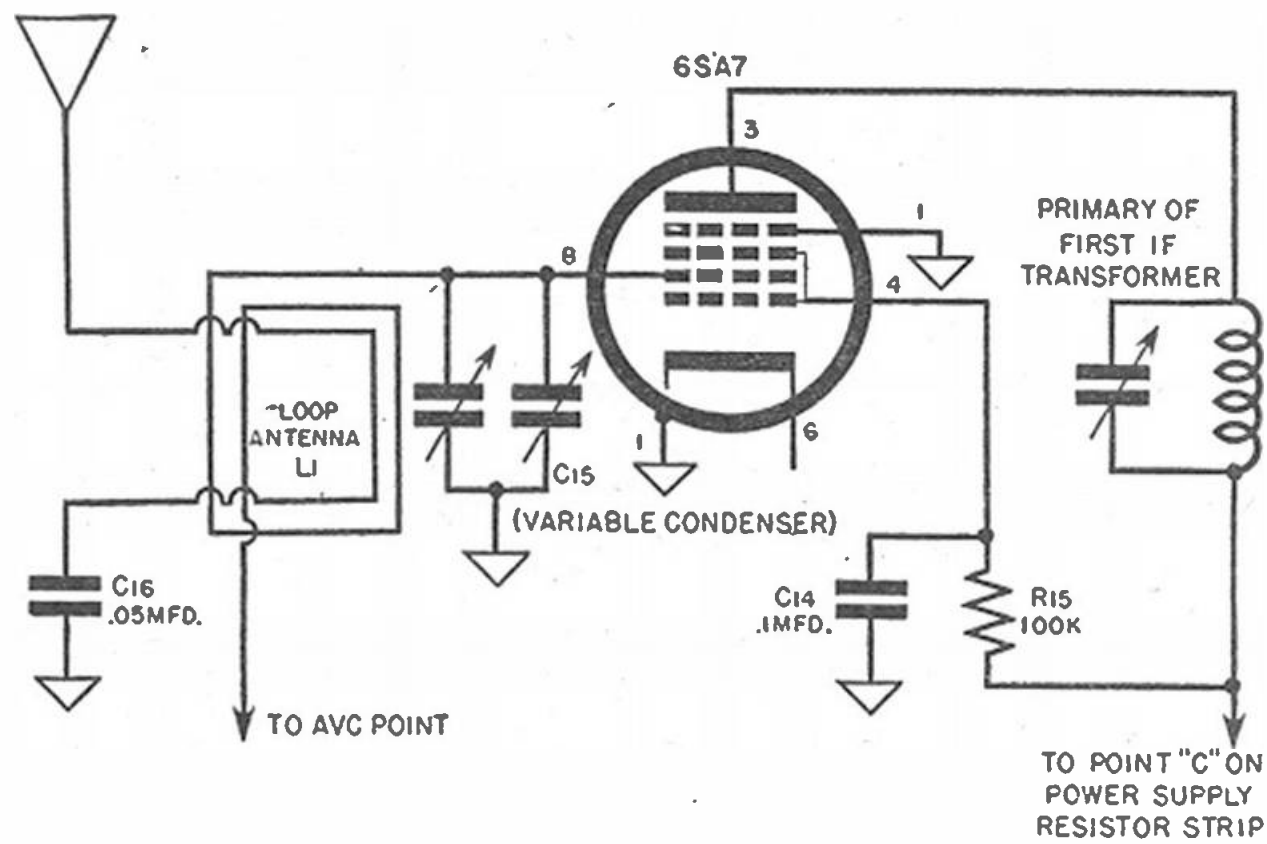

Fig. 2-39. Components of the mixer circuit.
g) *Mixer Circuit.* This section of the set is illustrated in Figure 2-39. If you have trouble identifying the loop antenna wires, refer back to Figures 2-17A and 2-17B.